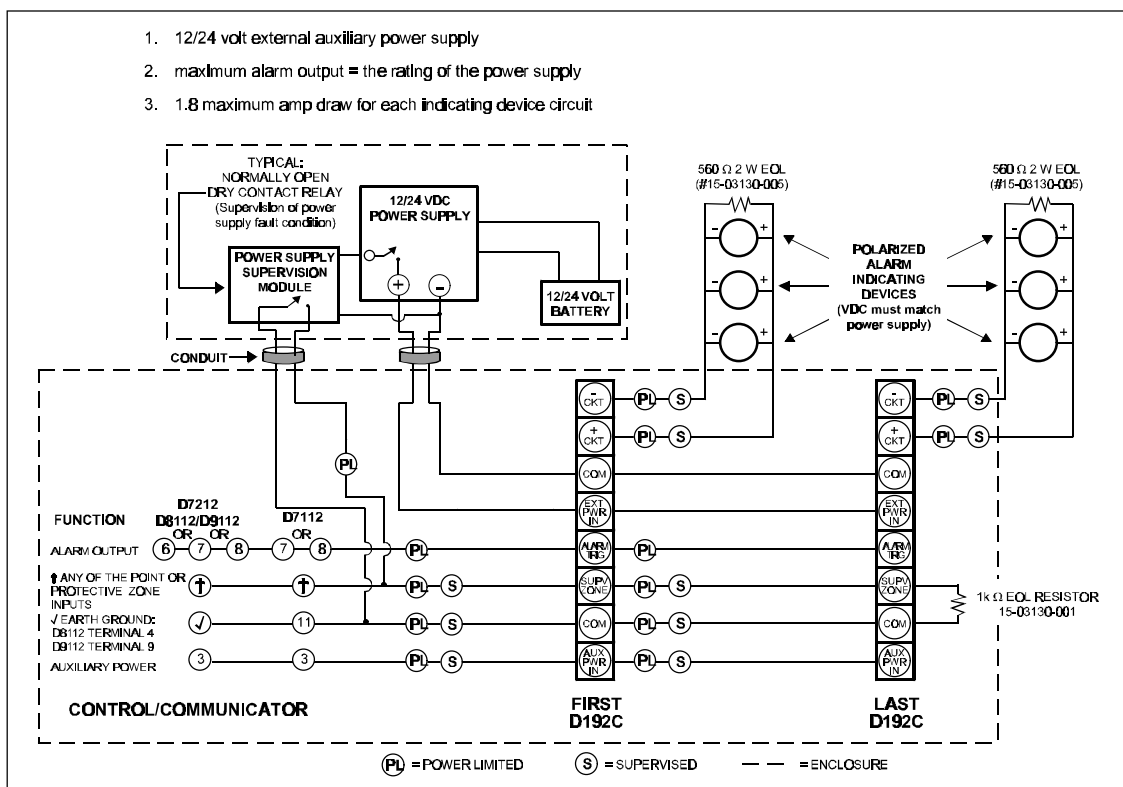

Figure 3: Connection with 12 Volt or 24 Volt External Power Supply
2. Depending on the panel and power supply used, wire the D192C according to Figure 3 and 4.